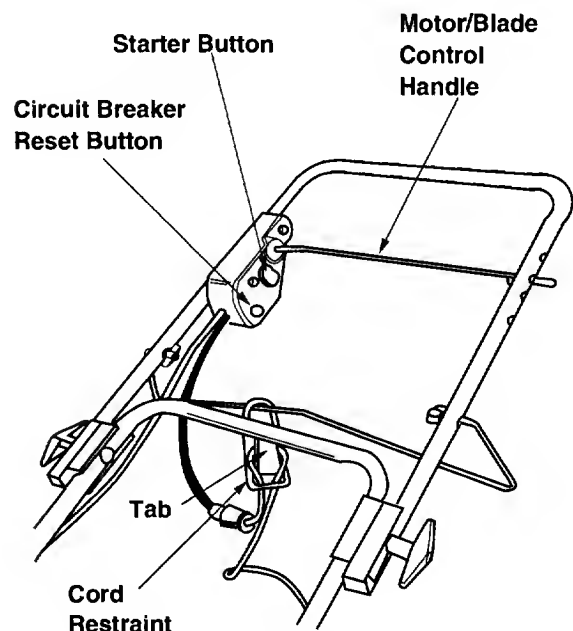

Figure 9
- Keep the cord restraint as close to the motor/blade control as possible. See figure 9.
IMPORTANT: Your mower is equipped with a circuit breaker, located on the motor/blade control housing. See figure 9. If the circuit breaker trips, reset as instructed in the Maintenance section.